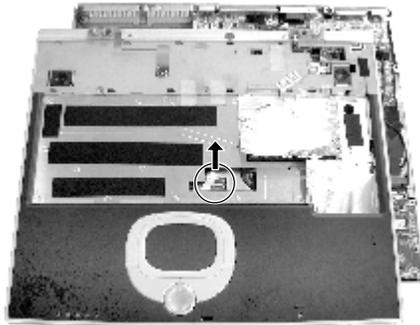

Figure 2-27 Remove the top cover
6. Disconnect the touch pad's cable. Then lift up the system top cover. (Figure 2-27)